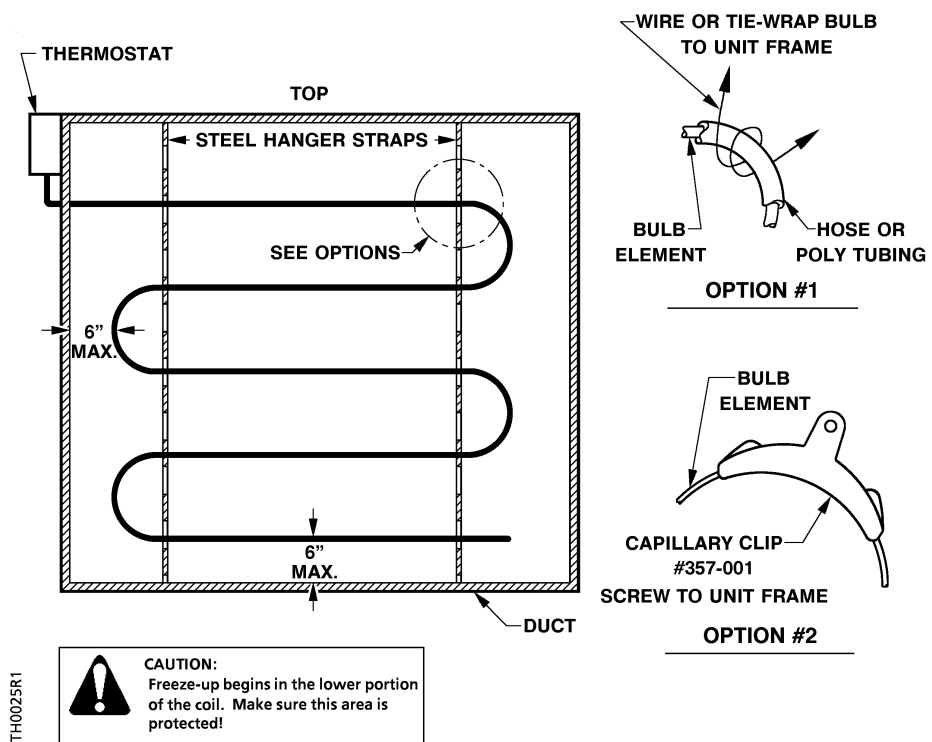

Figure 1. Typical Mounting in Walk-in Duct.
(Figure 1)
6. Mount the bulb in a horizontal serpentine manner. Attaching the bulb to the strap as shown in the detail in *Figure 1*.